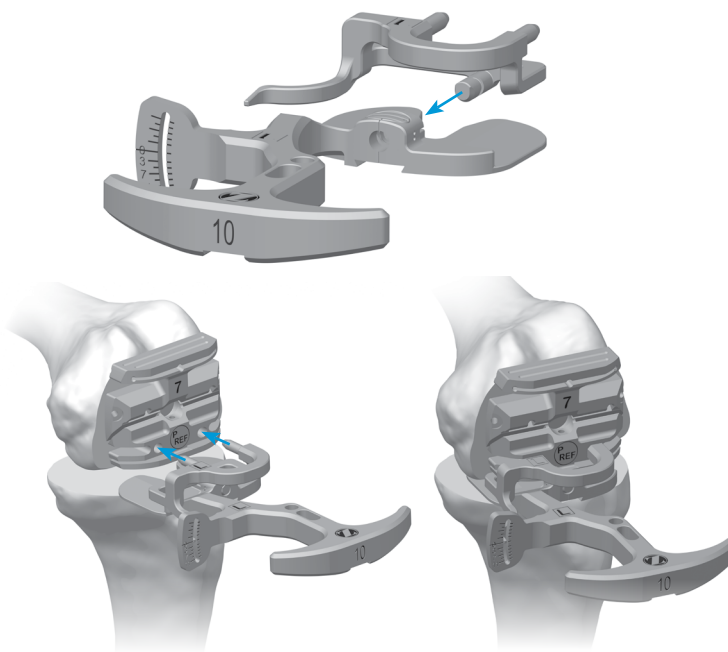

Fig. 24
- Prior to resection of the posterior condyles, attach the *Zimmer FuZion* 4-in-1 Cut Guide Adapter to the *Zimmer FuZion* Spacer Block and insert into the posterior holes of the *Persona* Posterior Referencing 4-in-1 Cut Guide (Fig. 24).